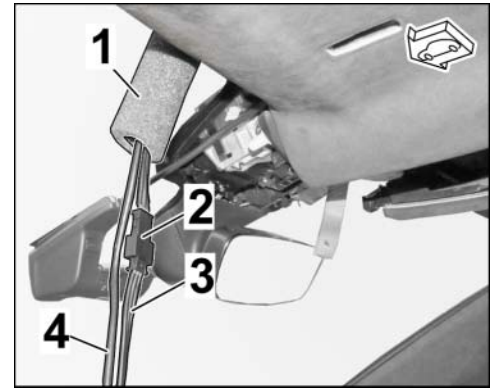

Figure 14
3.2.4 Push protective foam roll over the (3-pin) plug connection (⇒ *Figure 14*).